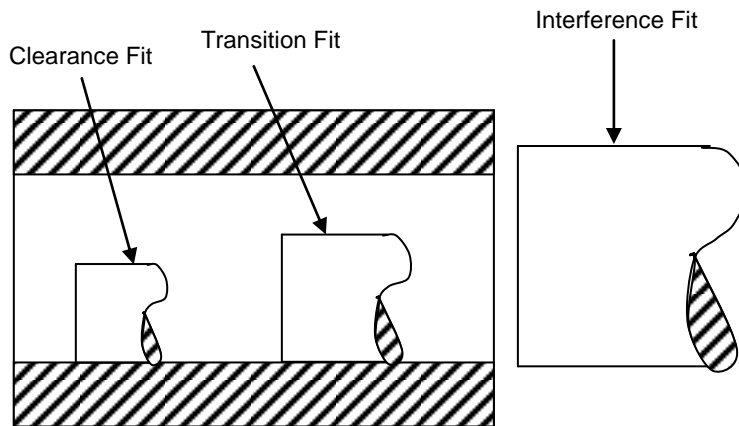

Figure 3.4 : Hole Basis System
- (i) Hole basis system (Figure 3.4)